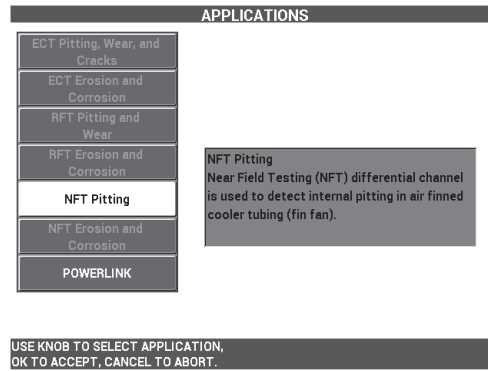

Figure 5-225 The NFT Pitting application
2. Select **CONTINUE** (press the A key) to open the application selection menu, and then use the knob to select **NFT Pitting**, and press ✓ to accept (see Figure 5-225 on page 288).